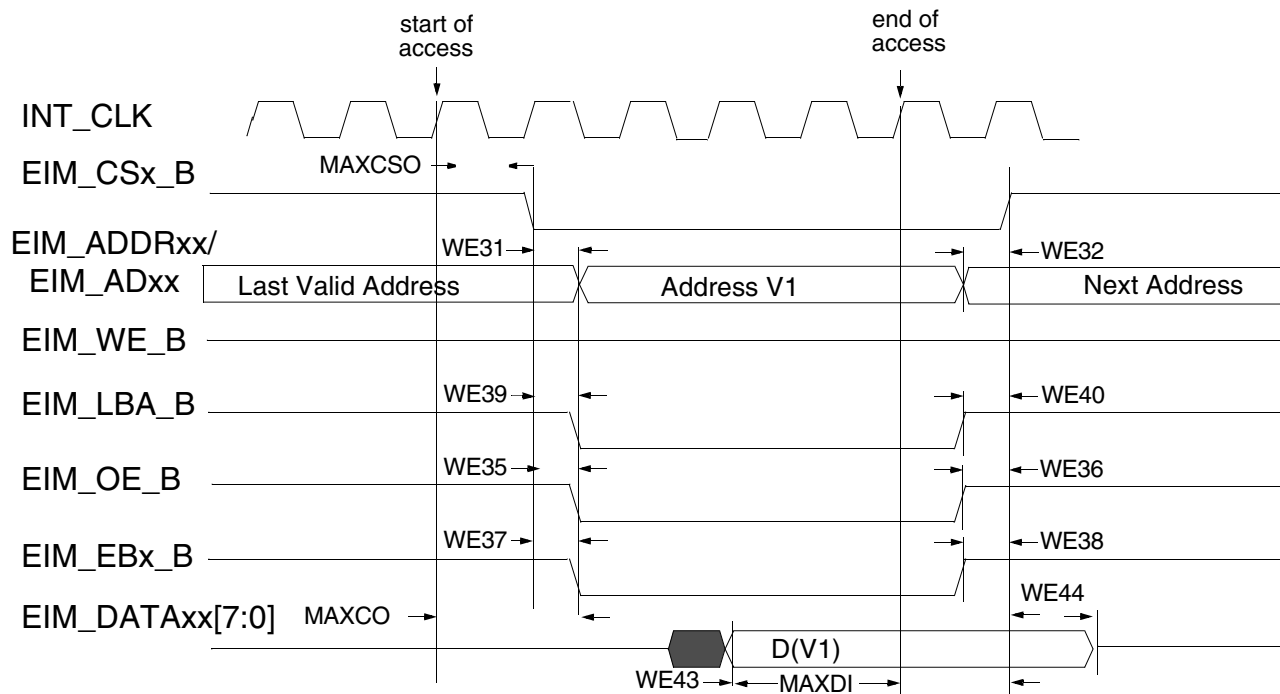
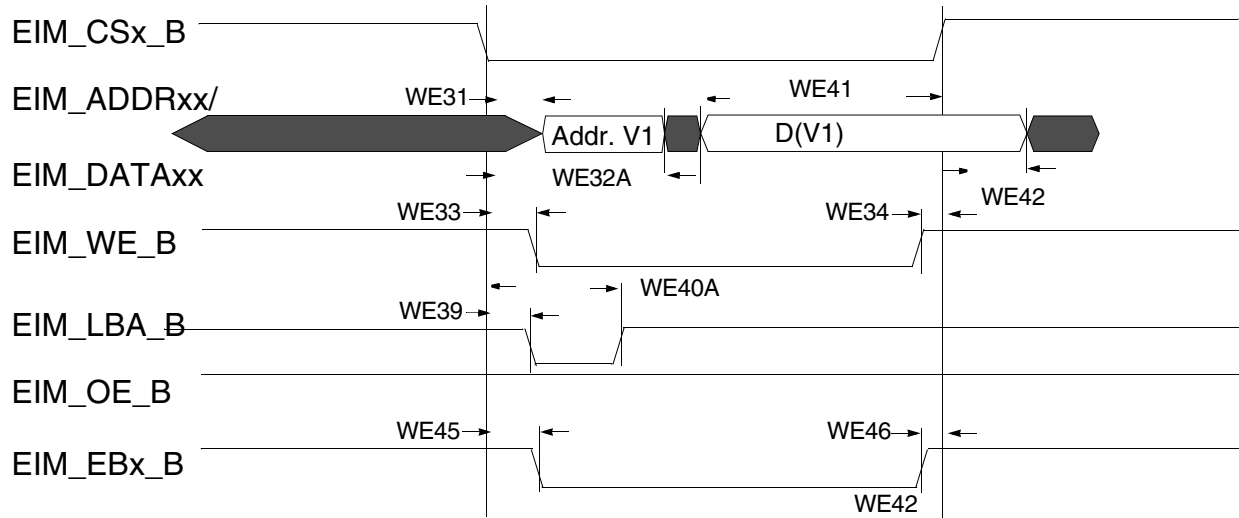
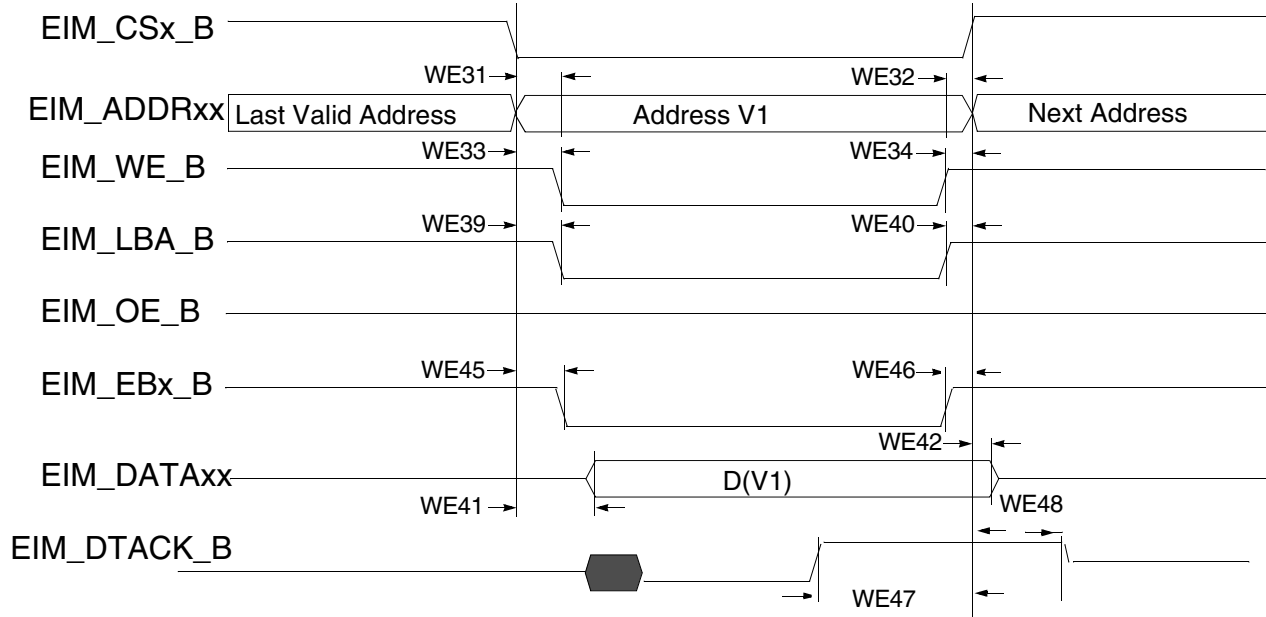

Figure 16. Asynchronous Memory Read Access (RWSC = 5)
Figure 19. Asynchronous A/D Muxed Write Access
Figure 21. DTACK Mode Write Access (DAP=0)
Figure 16 through Figure 21, and Table 46 help you determine timing parameters relative to the chip select (CS) state for asynchronous and DTACK EIM accesses with corresponding EIM bit fields and the timing parameters mentioned above.
Asynchronous read & write access length in cycles may vary from what is shown in Figure 16 through Figure 19 as RWSC, OEN and CSN is configured differently. See the *ii.MX 6SoloX Applications Processor Reference Manual (IMX6SXRM)* for the EIM programming model.